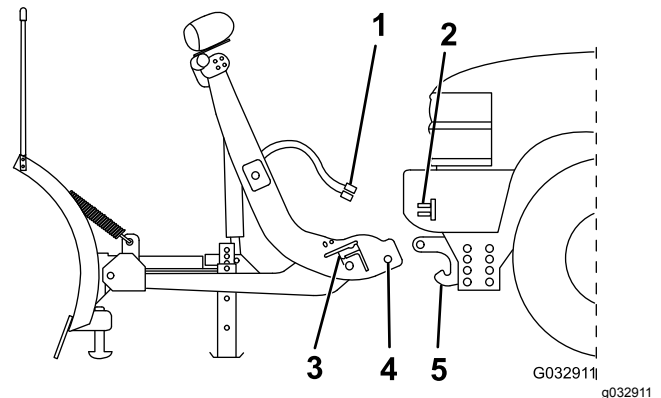

Figure 33
2. Line up the vehicle with the snowplow and slowly drive forward until the lower pin contacts the push-beam pin receiver (Figure 33).
4. Remove the electrical-plug dust-covers and connect the plow wire harness to the vehicle wire harness (Figure 33).